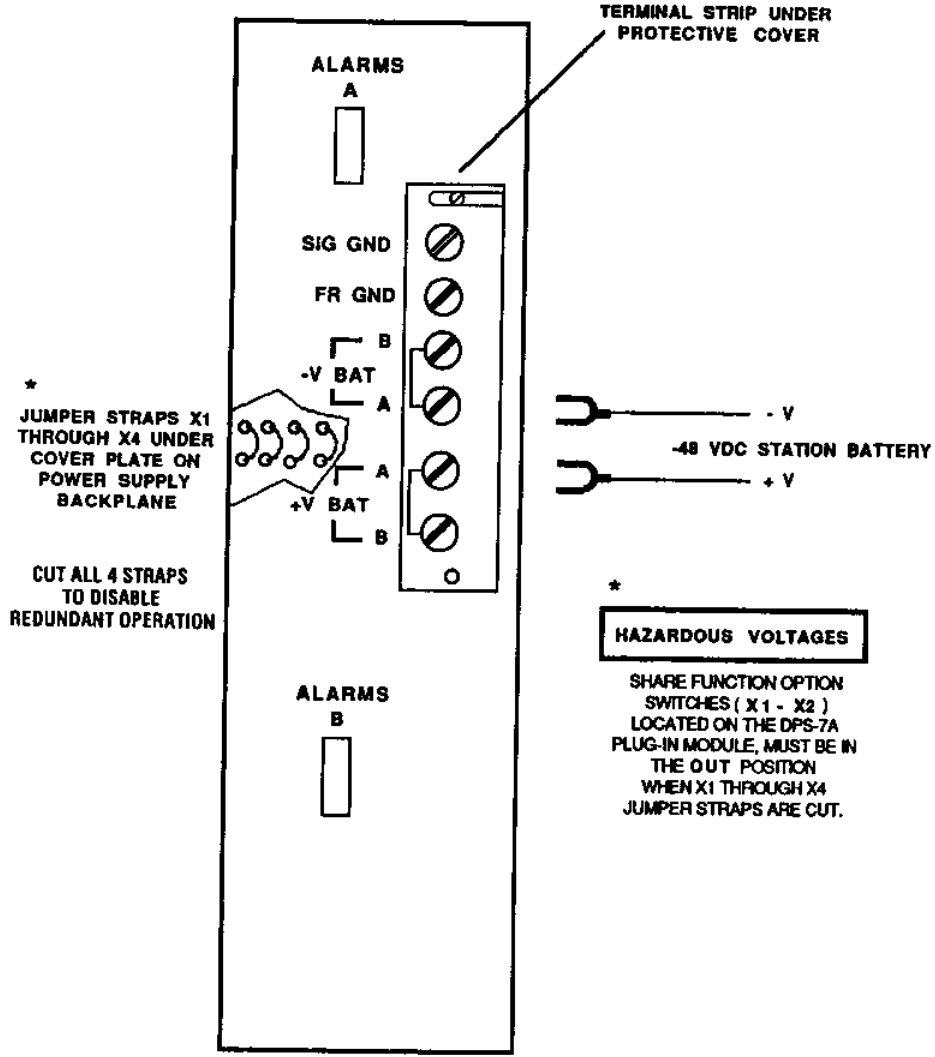
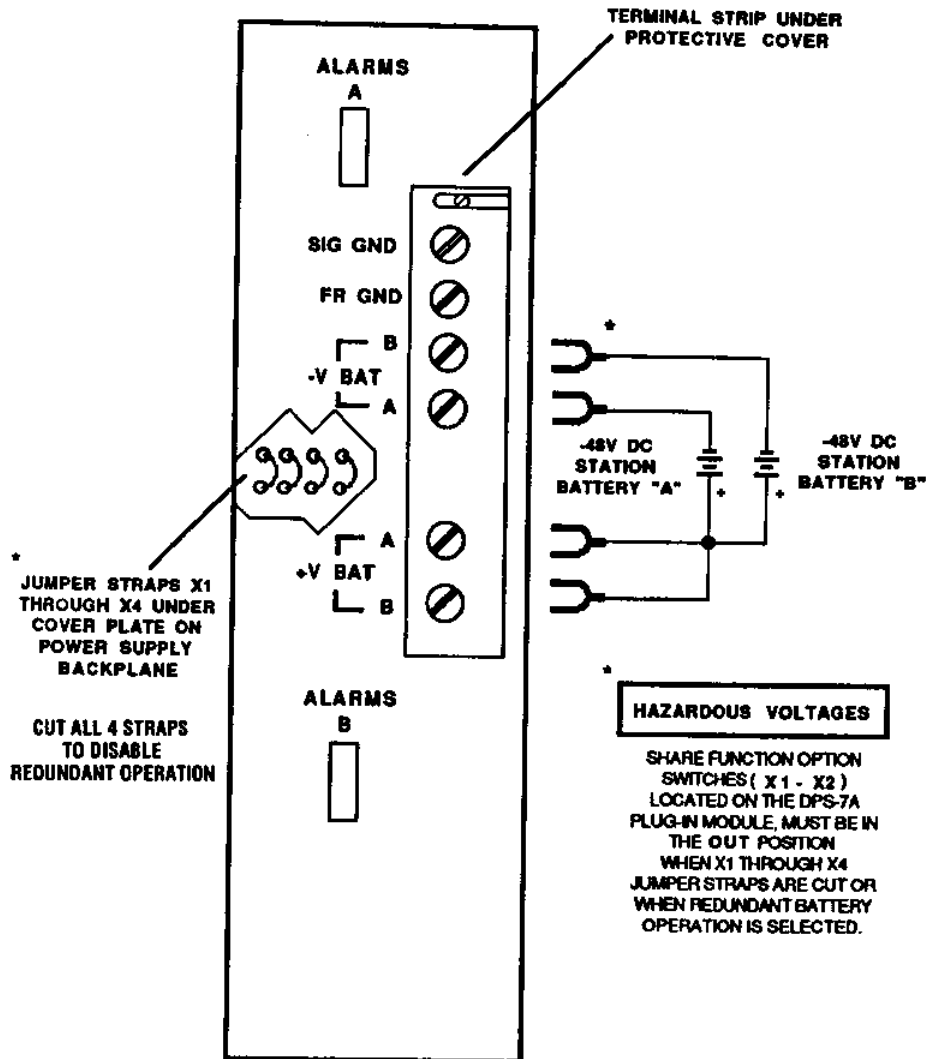

FIGURE 2-1. -48 V DC STATION SINGLE BATTERY CONNECTION
FIGURE 2-2. REDUNDANT BATTERY SYSTEM WITH COMMON POSITIVE TERMINALS
- b. Connect station battery to terminal strip at shelf's rear panel (Figure 2-1).
Single battery — At the power supply module's rear panel, jumper together the "A" and "B" screw terminals using short lengths of wire. Connect the 48-volt station battery leads to the +V BAT and to the -V BAT screw terminals being sure to observe polarity. (Refer to Figure 2-1.)
Redundant Battery System With Common Positive Terminals — With this connection power supplies A and B are redundant; if one power supply fails, the other will supply power to the slots in the shelf. To disable redundant operation, cut jumpers X1 through X4 which are located under the cover plate on the power supply's backplane. When the jumpers are cut, power supply "A" will power half of the slots and power supply "B" will power the other half. (Refer to Figure 2-2.)
Ease of paralleling power supplies, inherent feed-forward, and the reduction of a pole in the feedback path are benefits of the DPS-7A's current mode control. Thus, redundant power supplies share the function of supplying the load current because the supplies are current programmed. Redundant sharing is achieved by connecting the share signals of each supply together (see Section 2, Figure 2-2).
Redundant battery systems with common positive terminals (Figure 2-2) are not compatible with the power supply when the power supply's "share" function is used. Refer to Figure 2-1, and place option switches X1 and X2 located on the printed circuit card to the OUT position.